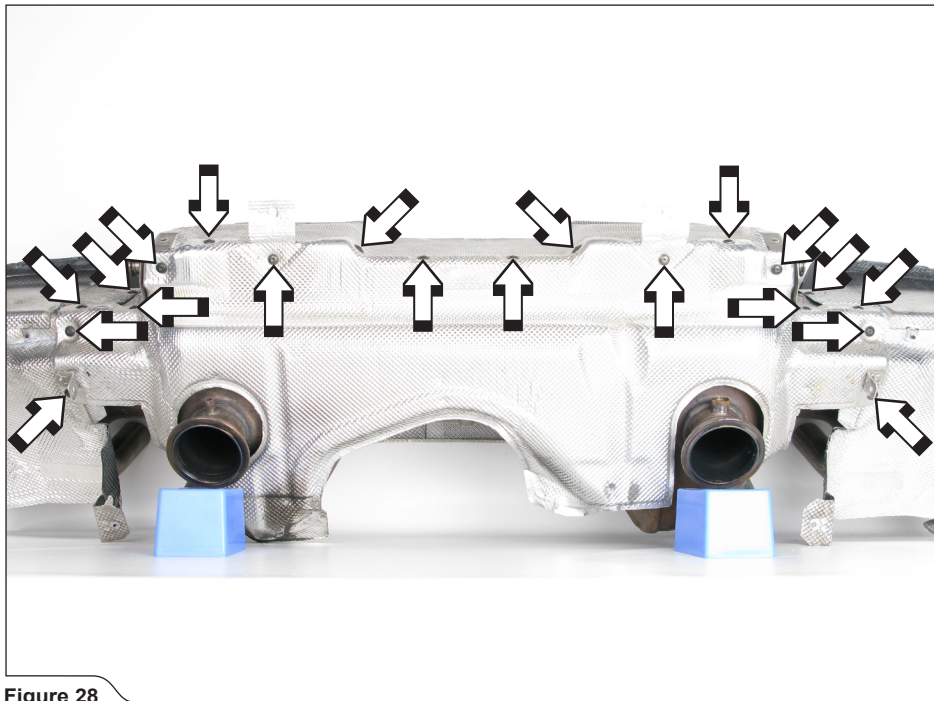

Figure 28
20. Unscrew the marked bolts and carefully remove the front part of the muffler's heat shield (Figure 28).